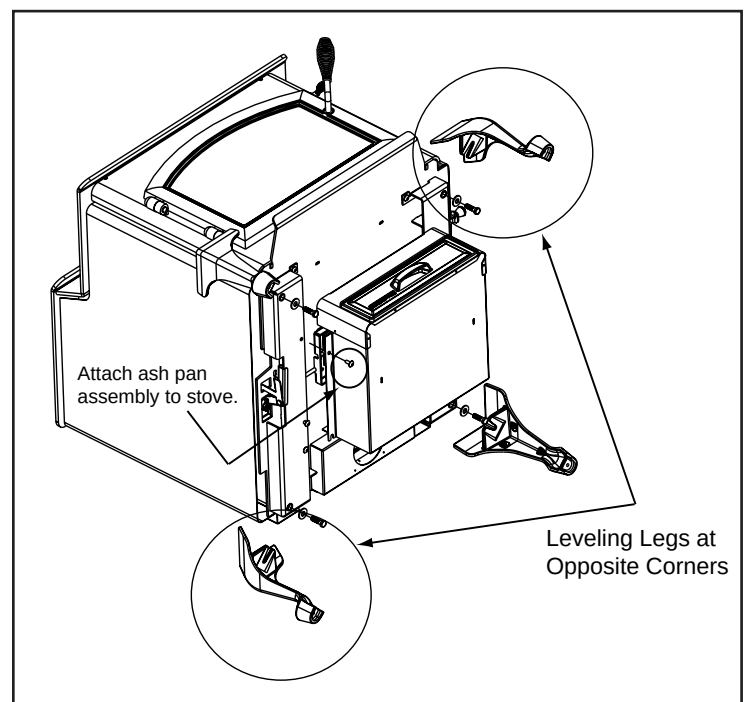

Figure 43.2
3. Slide the ash pan assembly bottom slots over the screw heads. This allows the weight of the ash pan to rest on the screws while you are attaching the top 2 screws. **Figure 43.2**.
3. Loosely assemble bolts into the corner of the mounting brackets for leg attachment. **Figure 43.2**.
4. Slide legs onto mounting brackets and tighten. Make sure the legs are up against the bracket. There are leveling bolts in 2 legs. These leveling legs should be in opposite corners. **Figure 43.2**.